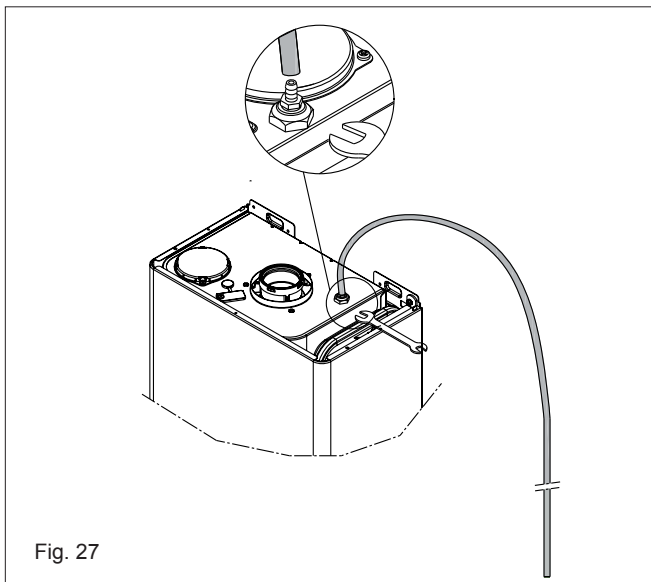

Fig. 27
5.3.1 MANUAL AIR RELEASE (fig. 27)